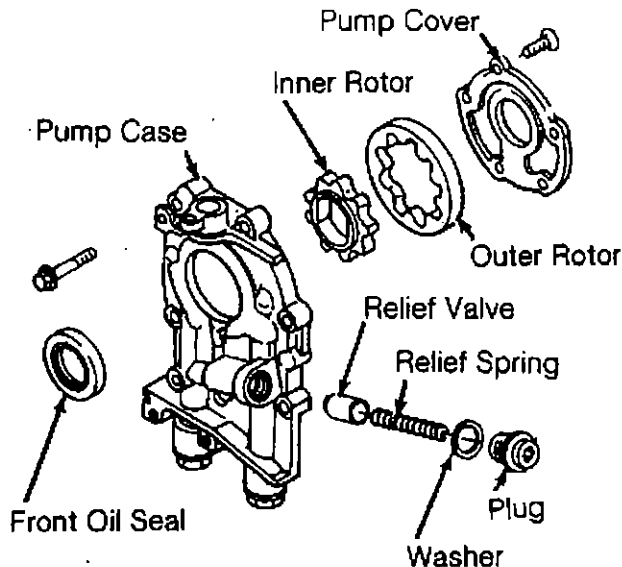

Fig. 10: Identifying Oil Pump Components
1) Disassemble pump. See Fig. 10. Measure tip clearance of rotors. See OIL PUMP SPECIFICATIONS table. If clearance is not as specified, replace rotors as a matched set.
Install front oil seal using Oil Seal Installer (499587100). Install inner and outer rotors, oil relief valve, relief spring and oil pump cover. See Fig. 10. To complete installation, reverse removal procedure. Replace "O" ring.